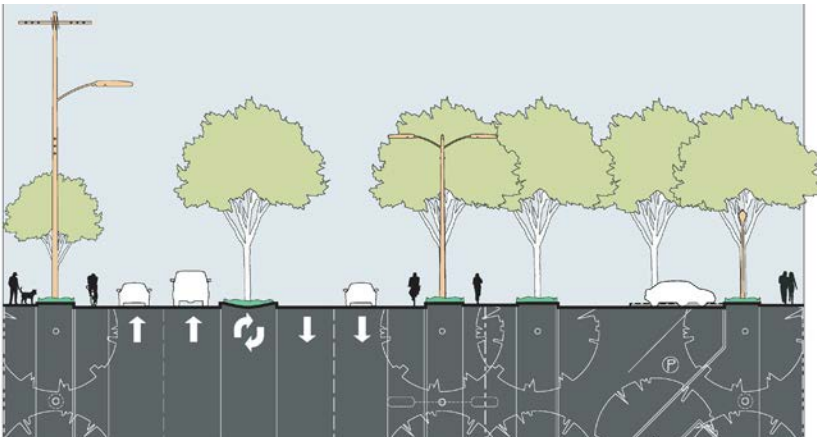

Figure 14:
- Between IH 35 and Lancaster Drive, Mueller's 60-foot urban reserve and frontage road should be maintained, but the cross section of 51st Street should be retrofitted to include (Figure 14):